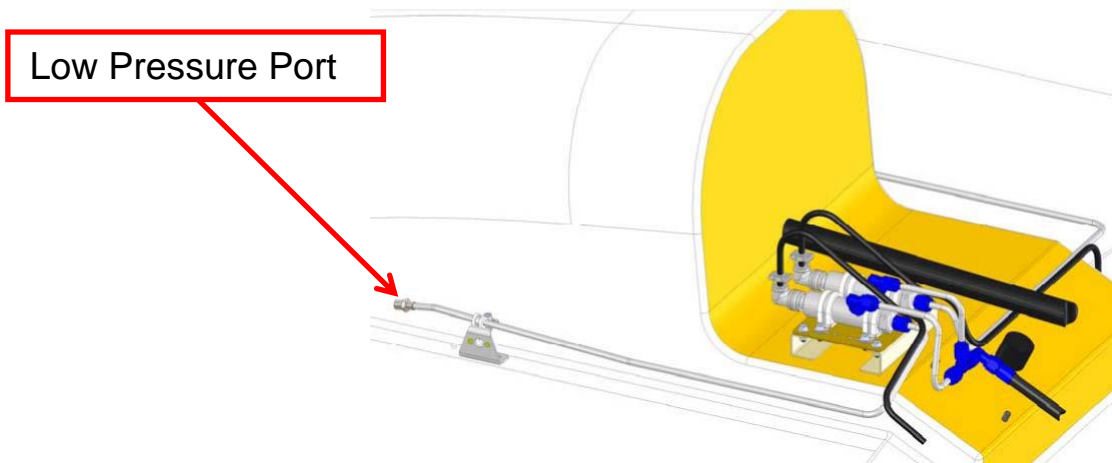

Figure H 1 Low Pressure Hose
3. Connect the IBF accessory hose (P/N: 115-00644) to the end of the Static(Ps) hose (Fig. H.1).